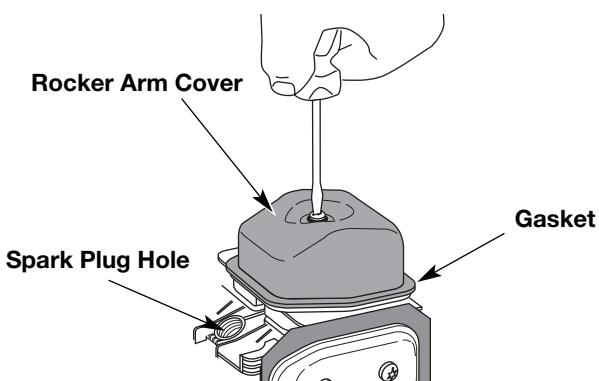

Fig. 25
- Clean dirt from around the rocker arm cover. Remove the screw holding the rocker arm cover with a large flat blade screwdriver or Torx T-25 bit (Fig. 25). Remove the rocker arm cover and gasket.
- The piston is at the top of its travel while looking in the spark plug hole (Fig. 25)